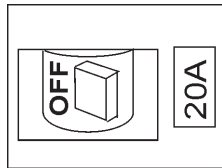

Figure 9. Main Breaker (OFF Position)
2. **NEVER start** the engine with the **main circuit breaker** in the "ON" position. Place the main circuit breaker (Figure 9) in the **OFF** position.
1. Place the **main circuit breaker** (Figure 9) in the **OFF** position.